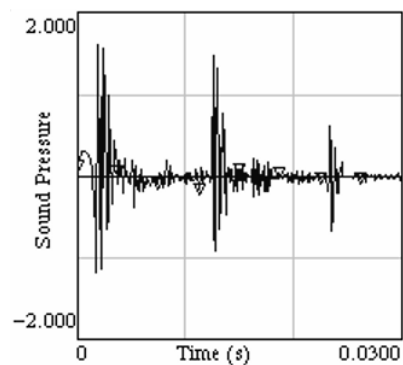

Figure 3
9. If you are successful, the graph will resemble the one in Figure 3. You may not see a third reflection. In this figure, each of three highest peaks corresponds to the same point on a waveform. The first peak is the initial sound, the second is the first reflection, and the third is a second reflection. Repeat data collection if necessary.